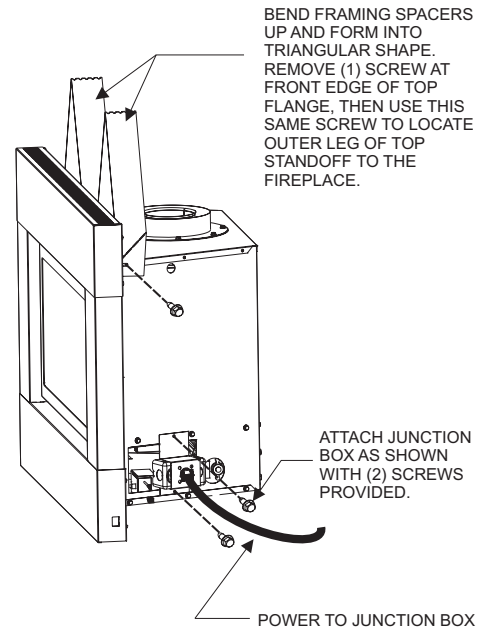

Figure 10
7. Prior to installing the Fireplace, hand bend the two (2) Top Framing Spacers into triangles as shown in **Figure 10**. To attach the outer leg of the standoffs, remove one (1) screw from the front of the outer top flange of the fireplace, then re-install the same screw through the tab of the top standoff spacers into the outer top to secure. **See Figure 10**.
The blower accessory may be installed at any time before or after installation of the fireplace providing that the junction box has been properly pre-wired and secured to the right hand side of the fireplace outer wrap. See Figures 10, 43 and 44.
NOTE: For shipping purposes, the junction box is installed on the inside of the outer fireplace wrap. It is secured with (2) screws on the side of the fireplace. Once removed from the side of the fireplace, wiring to the junction box and receptacle can be performed. Re-install the junction box assembly to the side of the fireplace so that the receptacle faces inward. See page 11, Figure 10.